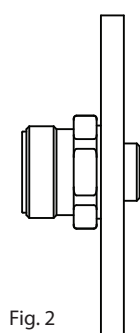

Fig. 2
3. Fit a sealing washer or other means of acceptable thread seal for flameproof equipment in line with IEC / EN 60079-14 onto the male entry thread. (For 482, the seal / sealant would be applied to the equipment thread. Tighten the entry section into / onto the equipment and secure using a suitable spanner or wrench (Fig. 2).